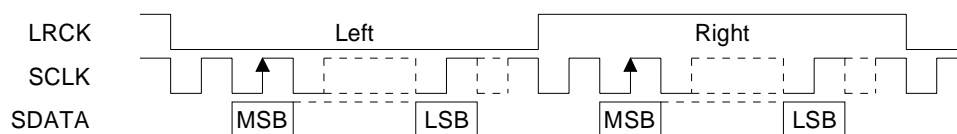

Figure 24. I²S Format
**I2S:** Figure 24 shows the I2S format. For I2S, data is presented most significant bit first, one SCLK delay after the transition of LRCLK and is valid on the rising edge of SCLK. For the I2S format, the left subframe is presented when LRCLK is low and the right subframe is presented when LRCLK is high. SCLK is required to run at a frequency of 48Fs or greater on the input ports.